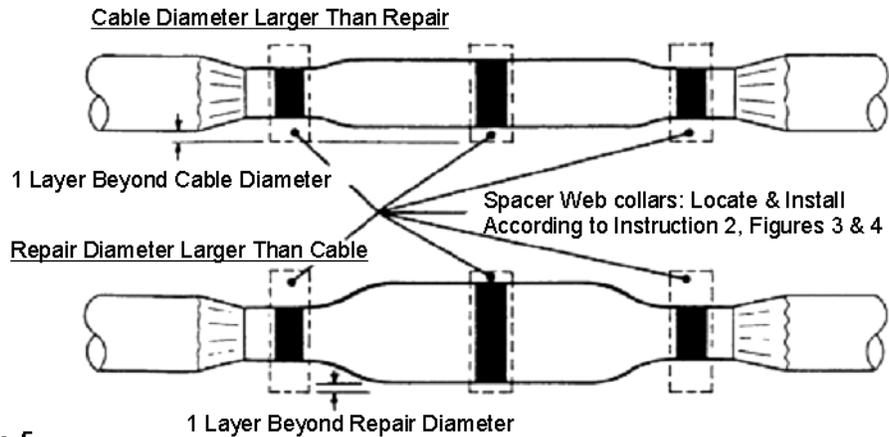

Figure 5
2. Wrap on spacer web collar(s); build *EQUAL DIAMETERS* to 1 layer greater than repair or cable diameter, whichever is largest. (Figure 5) *Locate and install collars according to INSTRUCTION 2, FIGURES 3 & 4, PAGE 8*.
- With cable straight, *CENTER* modified mold over spacer web collar. Wrap snugly around, tucking one edge under. (Figure 5)
- Position a funnel support over on the mold, locating it over the spacer web collar. Secure firmly with a mold strap. (Figure 5)
NOTE: MOLD, FUNNEL SUPPORT AND MOLD STRAP MAY BE MOVED AROUND AT THIS TIME, TO ADJUST FOR FINAL POSITION OF BEING CENTERED OVER THE SPACER WEB COLLAR. (Figure 5)
- Bundle mold's notched end evenly around cable, maintaining cable centering. Starting 1/2" (12 mm) on cable jacket, apply 1 half-lapped layer of Scotch® Linerless Rubber Splicing Tape 130C over the mold's notched ends. (Figure 5)
NOTE: APPLY SCOTCH® LINERLESS RUBBER SPLICING TAPE 130C WITH TACKY SIDE UP, WITH ONLY ENOUGH TENSION TO CONFORM TO MOLD. (Figure 5)